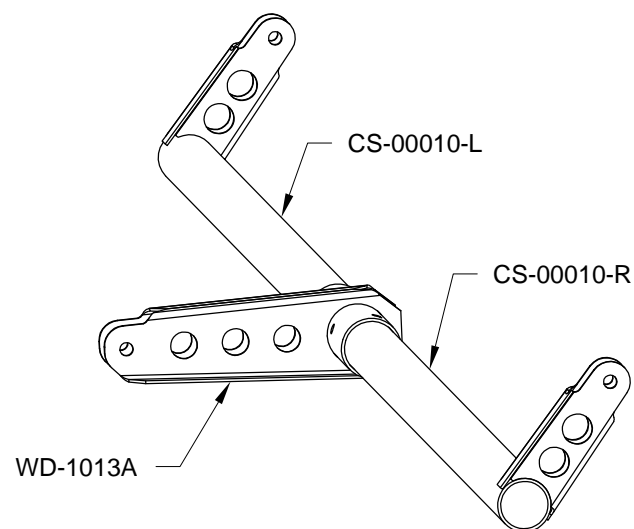

FIGURE 1:
Step 1: Repeat the steps outlined on Page 34-02 on the opposite side of the WD-1013A Flap Crank for the second CS-00010 Flap Torque Arm. When complete refer to it as the CS-00010-R Right Flap Torque Arm. See Figure 1.